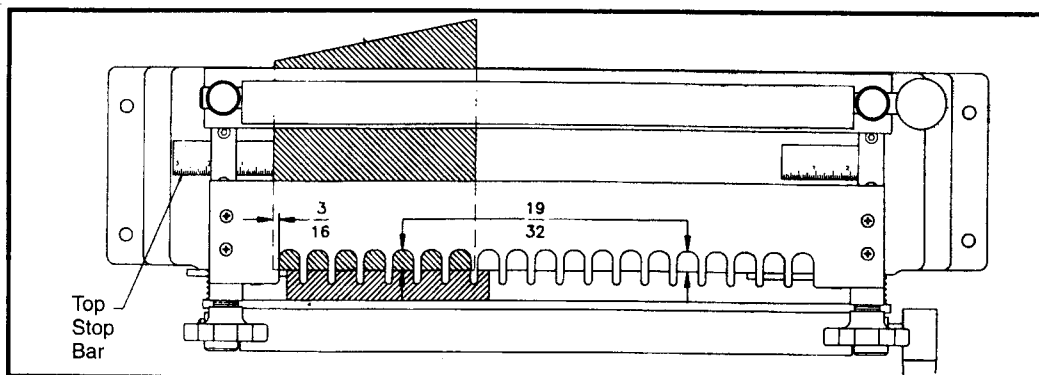

Fig. 8
3. Place $\frac{1}{2}$ " Half-Blind Dovetail templet on top of drawer front and position so that there is about $\frac{19}{32}$ " (see Fig. 8), from the back edge of the templet slots to the edge of the drawer front at both ends of the templet and tighten knobs to secure templet in place.
- Position drawer front so that the left edge is $\frac{3}{16}$ " (see Fig. 8), past the left edge of the first templet slot and clamp board in place.
- Slide top stop bar (see Fig. 8), to the right to contact drawer front and lock in place.